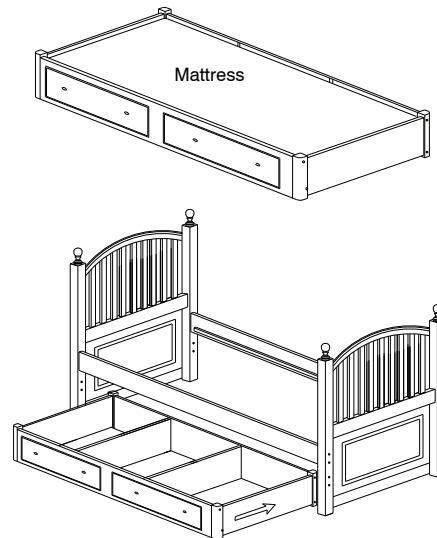

Figure 6
7. See Figure 6: push the whole unit under the bed.